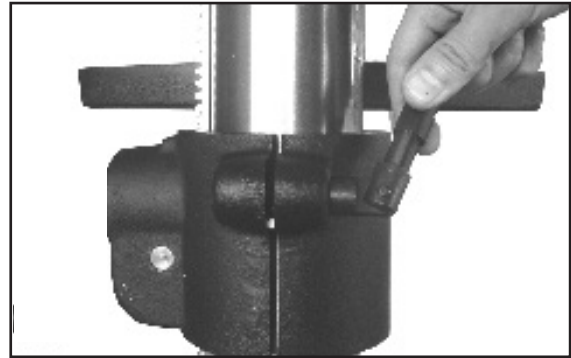

Figure 12
1. Install the large Locking Lever (#16A) onto the rear joint of the table support bracket and tighten the locking lever. (Figure 12).